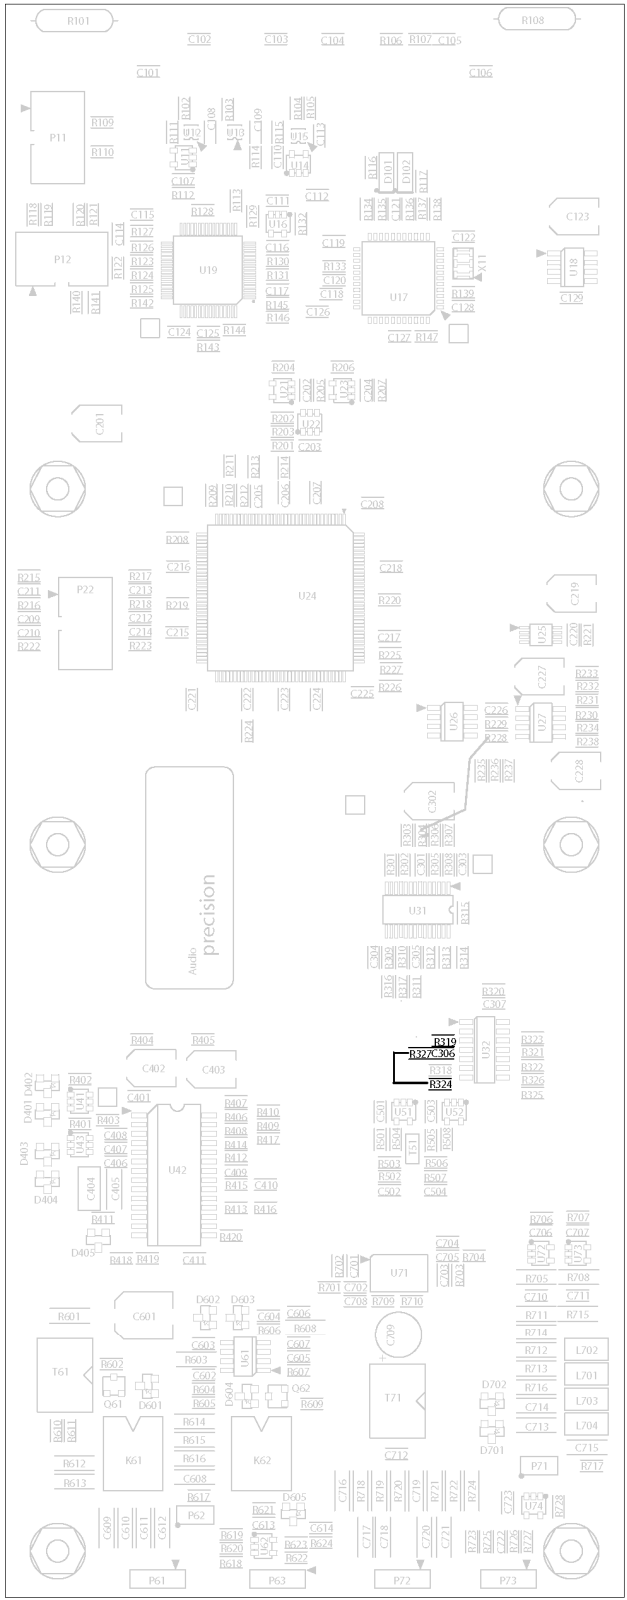

Figure 2 BAES module with modified area highlighted.
3. Note the modification area on the circuit board layout in figure 2.